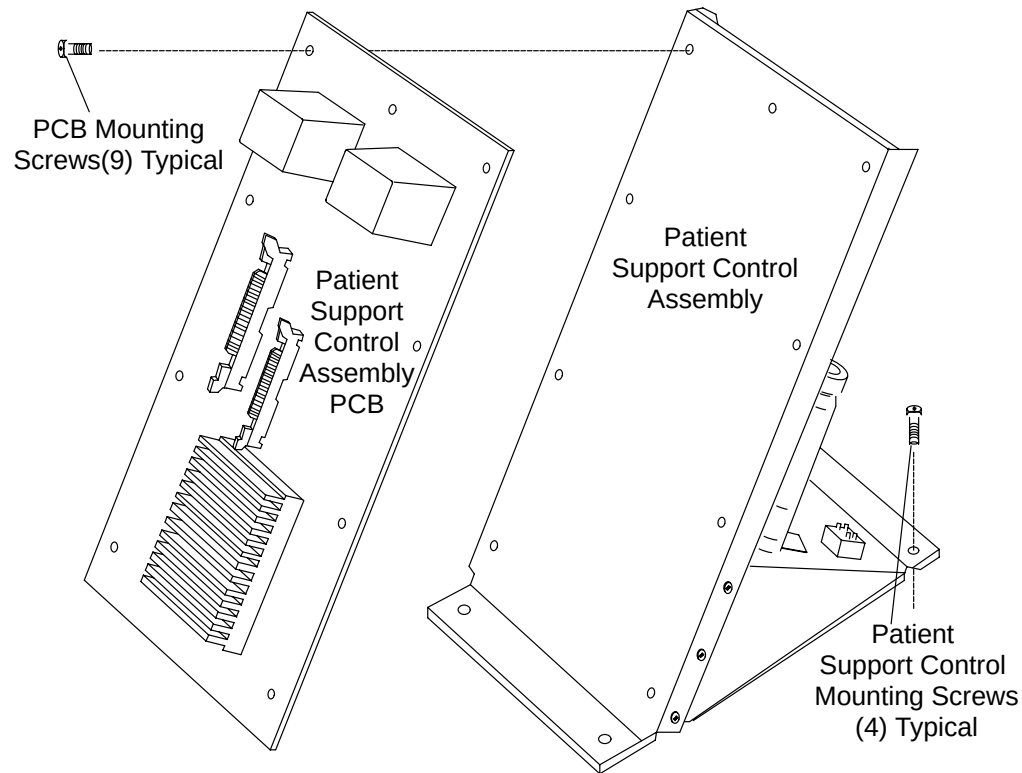

FIGURE 220 Patient Support Control PCB
10. Remove the nine Mounting Screws that secure the PCB to the Control Assembly. See Figure 220.